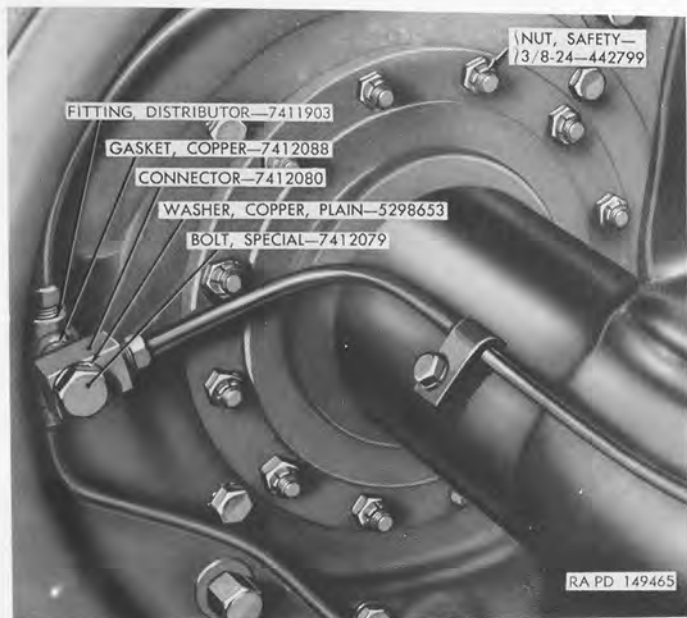

Figure 160. Inner view of rear brake assembly installed on axle.
- (2) *Rear*.—Disconnect axle brake line assembly from distributor fitting at backing plate by removing special bolt attaching axle brake line connector to distributor fitting (fig. 160).